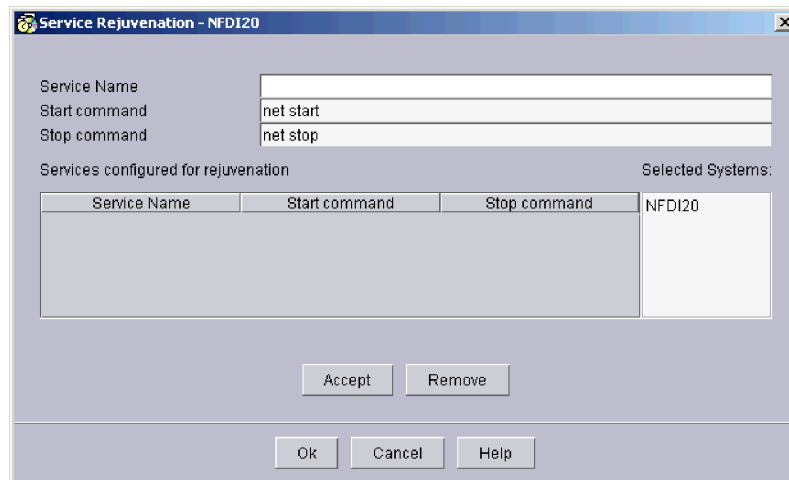

Figure 134. “Service Rejuvenation” Window
3. Click **Tools** → **Service Rejuvenation**. The “Service Rejuvenation” window opens. See Figure 134. The **Selected Systems** field displays the managed system or systems that you selected in the **Selected Systems** pane of the “Software Rejuvenation” window.